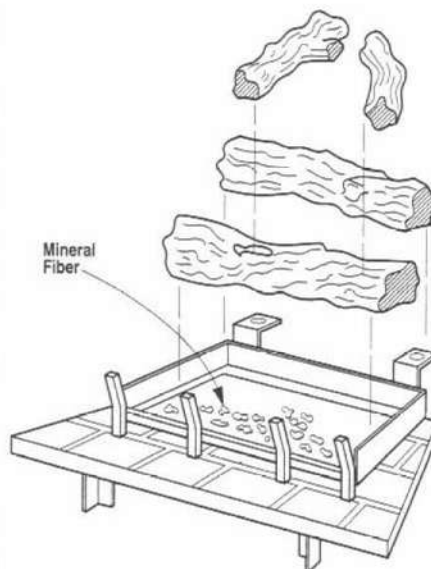

Figure 19
Carefully position and center the fiber logs onto the burner with the longer log in front. Place the two (2) smaller fiber logs across the two (2) lower logs in the manner illustrated (Figure 19). The flames should not impinge on the logs.